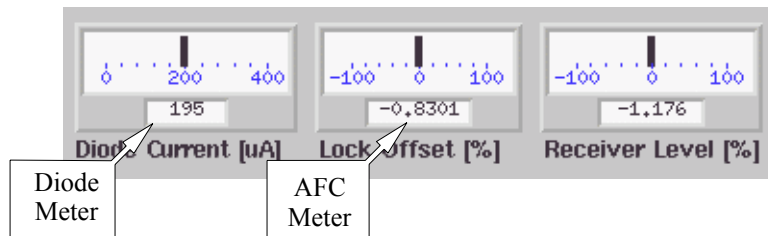

Figure 7-22 The location of the AFC and diode current meters.
2. **Tune the microwave bridge.** Follow the procedures in Section 3.2 for automatic tuning or Section 7.1 for manual tuning. The frequency, bias, phase, and iris screw should be adjusted so that the needles of the AFC and Diode meters remain centered as the microwave attenuation is changed from 10 to 40 dB. (See Figure 7-22.)